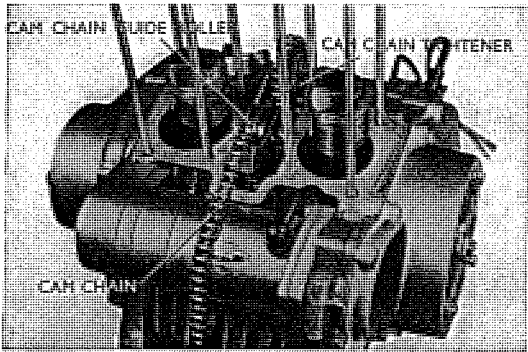

Fig. 3.110 Cam chain guide roller
4. The cam chain guide roller is coupled to the cam chain tightener. (Refer to Fig. 3.110)